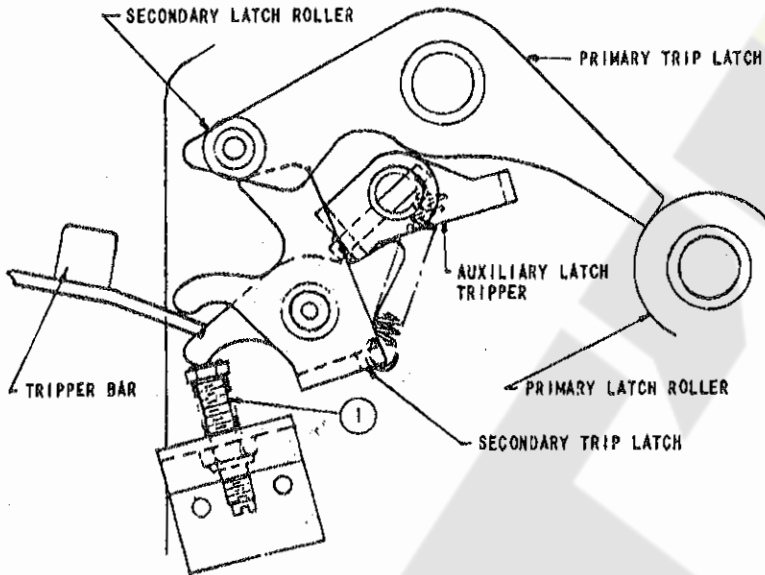

Fig. 5 — Primary Trip Latch Adjustment
Figure 5 shows the arrangement necessary for the breaker to be in the closed position. The spring holds the secondary trip latch down against screw (1). The secondary trip latch holds the secondary latch roller up, which in turn holds the opposite end of the primary trip latch down. This prevents the primary latch roller from moving to the left and opening the breaker. If none of the various trip devices are acting on the tripper bar or the auxiliary latch tripper to open the breaker or to prevent the breaker from closing and the breaker still will not close, then the following adjustment should be made.
- a. Turn screw (1) down to insure that secondary trip latch will hold the secondary latch roller up.
- b. With the breaker closed, turn up on screw (1) until the breaker trips.
- c. Turn screw (1) down two turns.